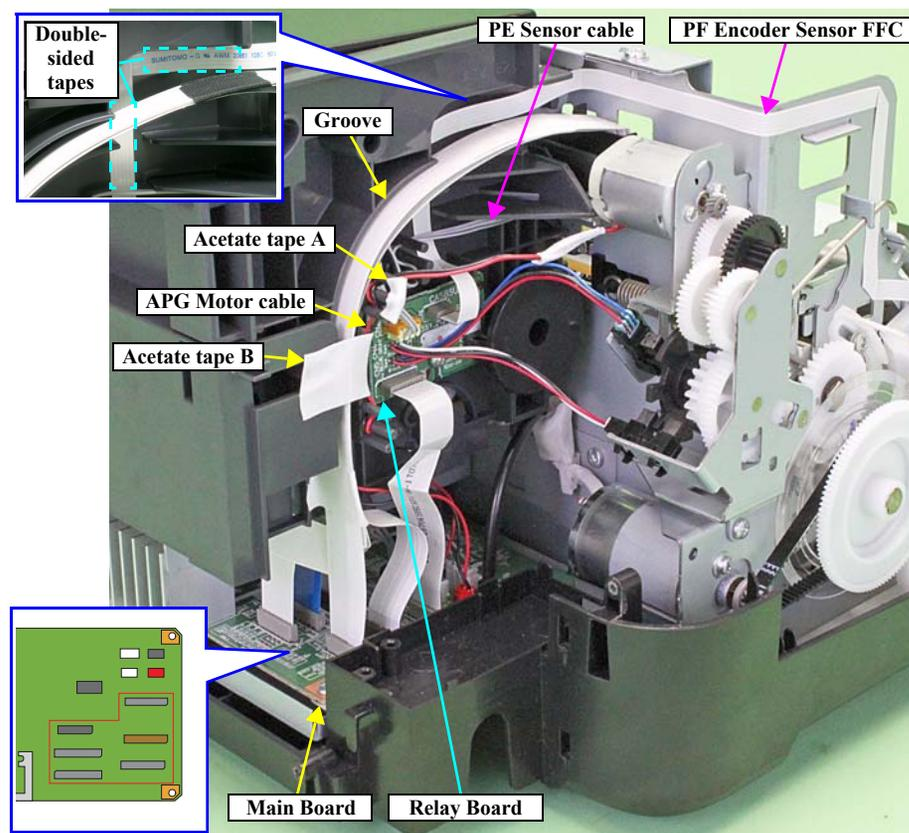

Figure 3-83. Releasing the Cables (2)
- Referring to Figure 3-83, correctly route each of the cables and FFCs.